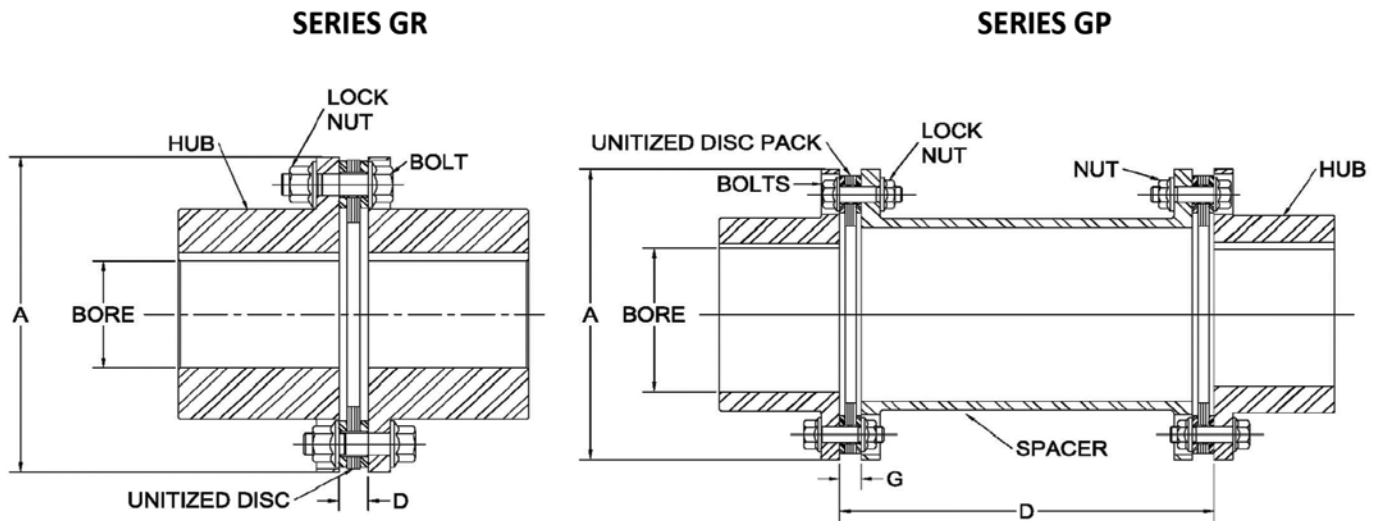
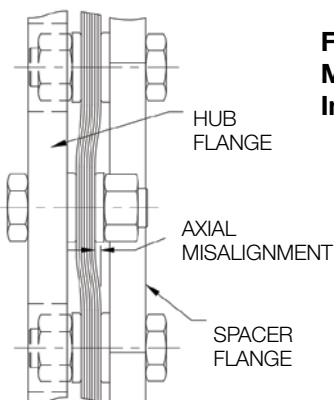

Fig. 1: Coupling Nomenclature
Fig. 2: Excessive Axial Misalignment at Installation
7. The distance 'D' between shaft ends and/or flange faces, see Fig 1, should match the target dimension within +/- 25% of the coupling's axial capacity as given in Table 1. Generally speaking the axial error at installation should not be visible to the naked eye - see Fig. 2. Reference the coupling drawing for configurations not similar to Fig 1.
9. Install disc packs, bolts, and nuts at each end of the coupling. See Fig 1 for proper bolt and washer orientation. Coat all bolt threads and nut faces as specified in Table 2 and tighten all to a light snug fit only. Read the following sections before tightening bolts.
11. The average gap dimension 'G' ('D' for GR Series) as shown in Fig 1, at each disc pack, should be within the value given in Table 1 +/-12.5% of the coupling's axial capacity.